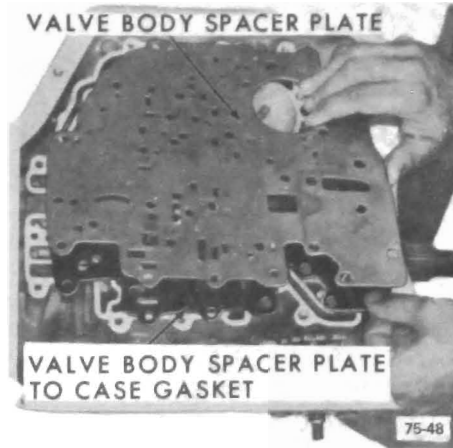

Figure 75-294
1. Install valve body spacer plate to case gasket and valve body spacer plate. See Figure 75-294.